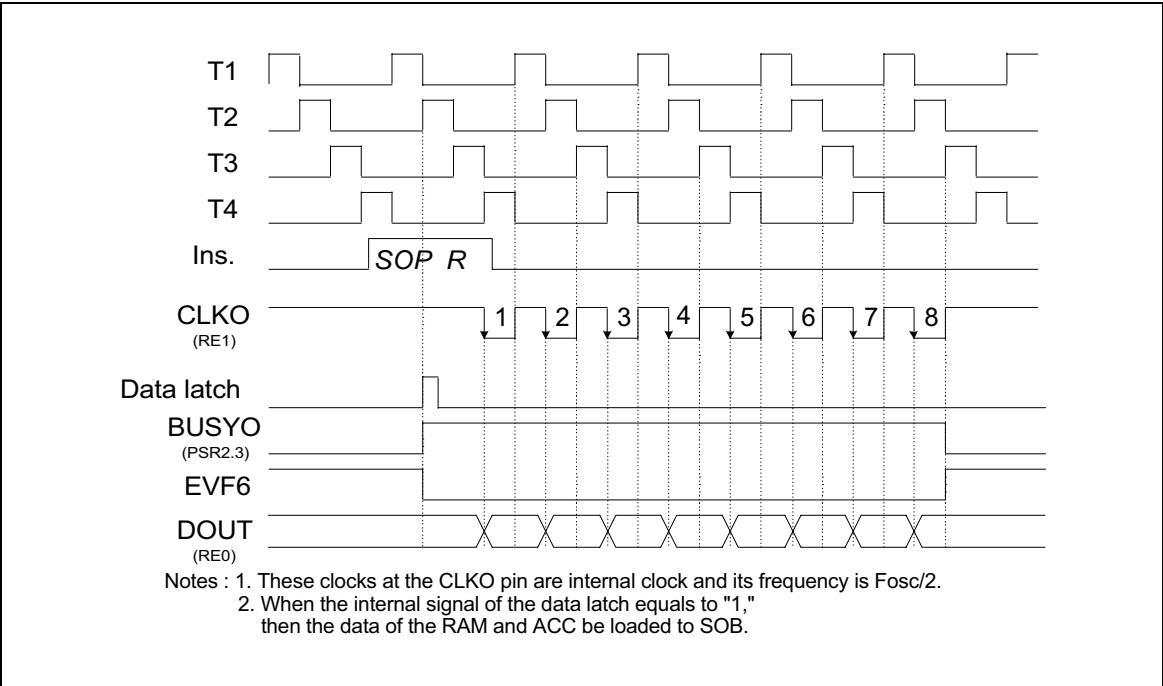

Figure 12. Timing of the Serial Output Function (SOP R)
(2) When the SOP R instruction is executed, the data will be loaded to the serial output buffer (SOB) and bit 3 of port status register 2 will be set to "1" ($BUSY_O = 1$). Then the CLKO pin will send out 8 clocks and the data in SOB will be sent out at the falling edge of the CLKO pin. After the 8 clocks have been sent, $BUSY_O$ will be reset to "0" and EVF.6 will be set to "1." At this time, if IEF.6 has been set ($IEF.6 = 1$), an interrupt is executed; if HEF.6 has been set ($HEF.6 = 1$), the hold state is terminated. Users can check the status of PSR2.3 ($BUSY_O$) to know whether the serial output process is completed or not. If a serial output process is not completed, and the SOP R instruction is executed again, the data will be lost. The timing is shown in Figure 12.